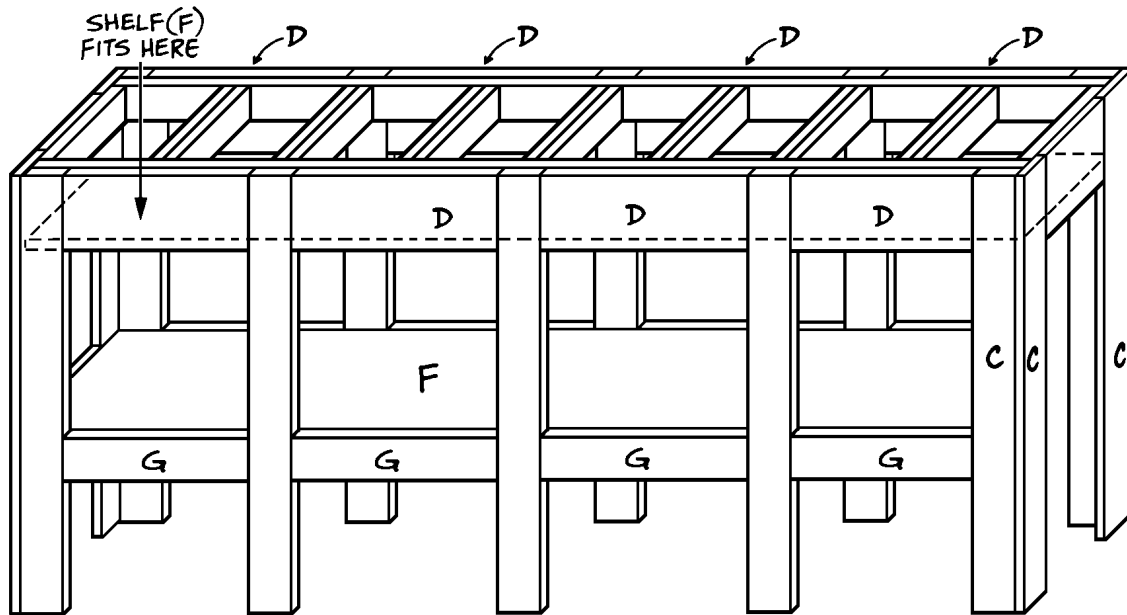

Figure 5
1. Rip the 12 linear feet of 1 x 10 pine to a width of 8-3/4". Then cut two 70"-long shelves (F) from the ripped boards.
2. Glue the first shelf (F) in place inside the legs (C), positioning its bottom surface flush with the lower edges of the leg spacers (D) and short spacers (E), as shown in *Figure 5*. Secure the shelf in position by inserting two 1-1/2" screws through each leg (C), each leg spacer (D), and each short spacer (E) into the edges of the shelf (F).
3. Repeat Step 2 to attach the second shelf (F), positioning it 9-3/4" from the bottoms of the legs (C).
4. Cut eight shelf spacers (G) from 1 x 4 pine, each measuring 13-1/8".
5. Position four of the shelf spacers (G) between the legs on one side of the planter, as shown in *Figure 5*, placing their upper edges flush with the top face of the lower shelf (F). Glue the shelf spacers (G) in place and secure each one with two 1-1/2" screws driven through the spacer and into the edge of the shelf (F).
6. Repeat Step 5 to attach the remaining four shelf spacers (G) to the opposite side of the planter.
7. Cut two short shelf spacers (H) from 1 x 4 pine, each measuring 3-1/4" long.
8. Glue the short shelf spacers (H) in place between the legs (C) at both ends of the planter, positioning them so that their upper edges are flush with the top of the lower shelf (F). Secure each short shelf spacer (H) to the shelf (F) with two 1-1/2" screws.